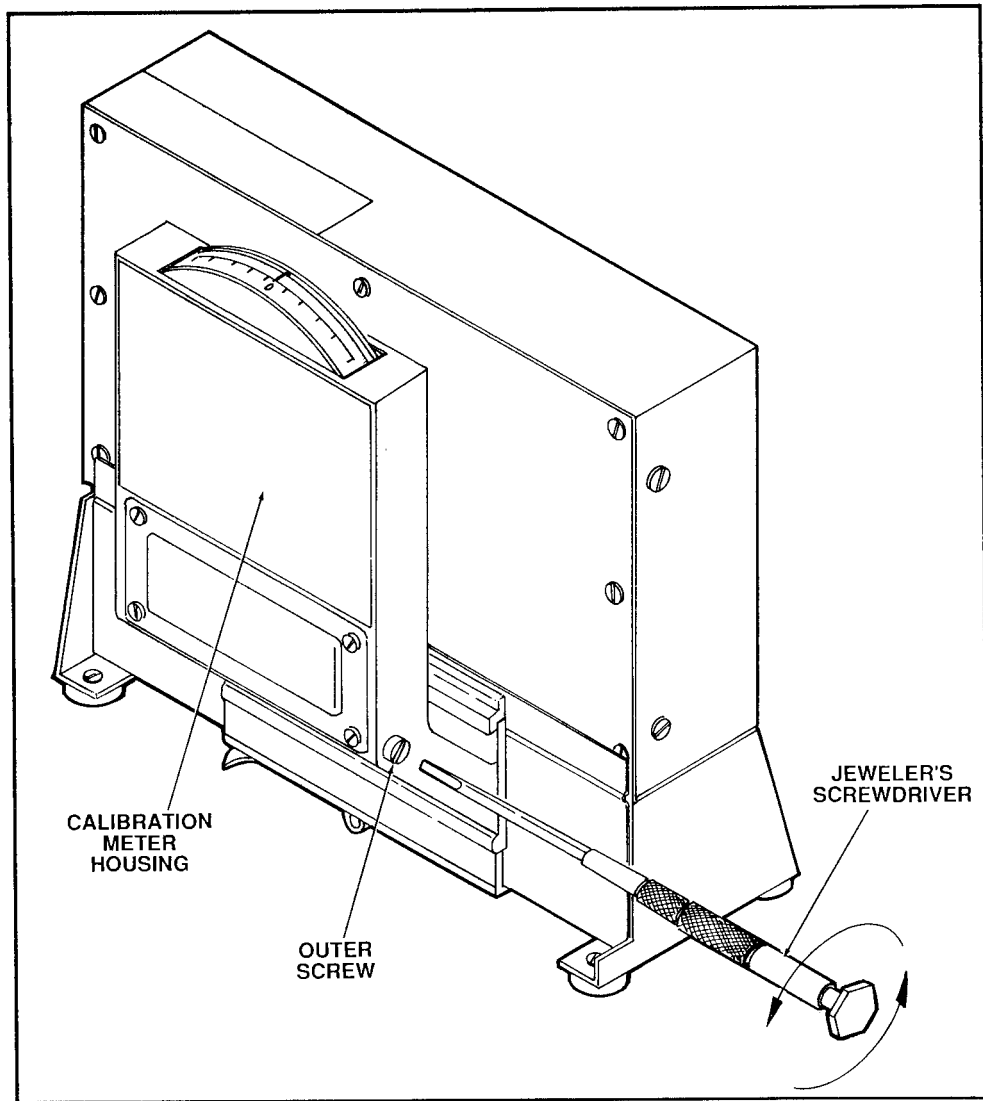

Figure 2.26 Removing the Outer Screw from Calibration Meter Housing
- f. Using the jeweler's screwdriver, remove the outer screw on the side of the calibration meter housing (Figure 2.26). This provides access to the internal adjustment screw which allows adjustment to the meter lever.